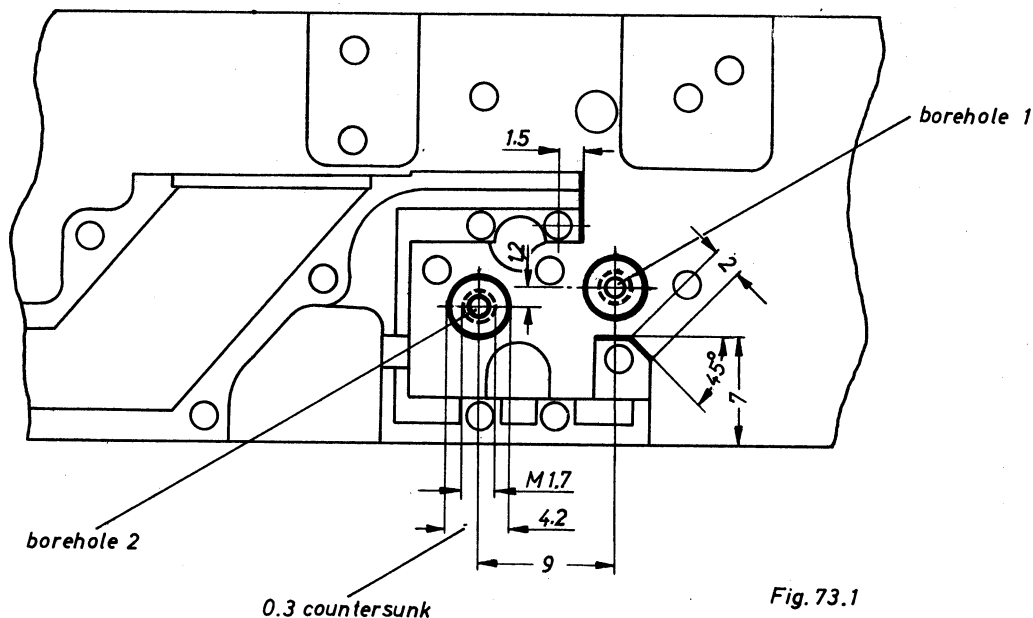
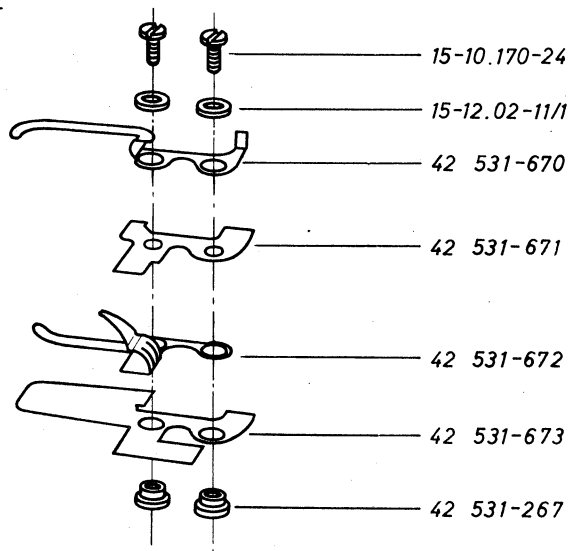

Fig. 73.1
Fig. 74.1
- 3.11 Mount the Leica securely from the cover plate side, seal off all opening giving access to the shutter and using cylindrical cutter 4 ϕ DIN 844 W proceed to mill in accordance with Fig. 73.1.
- 3.12 Should the Leica be due for complete dismantling, lay the main body with the film channel facing downwards and clamp the main body firmly from the shutter side with a plate in such a manner, that the camera can be milled, as shown in Fig. 73.1.
- 3.2 Screw and secure the pre-assembled contact sub-group (see Fig. 74.1) in borehole 1 (see Fig. 73.1) with the aid of screw 15-10.170-24 on the main body.
- 4.1 The pre-assembly of the contact sub-group takes place in the sequence shown in Fig. 74.1, whereby insulating lacquer is applied to the contact surfaces facing the main body, between the individual components.